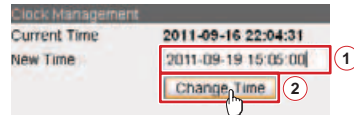

Figure 48. Clock Management Panel
1. Entering the local time in the **New Time** field in the format yyyy-mm-dd hh:mm:ss (see ① figure 48).